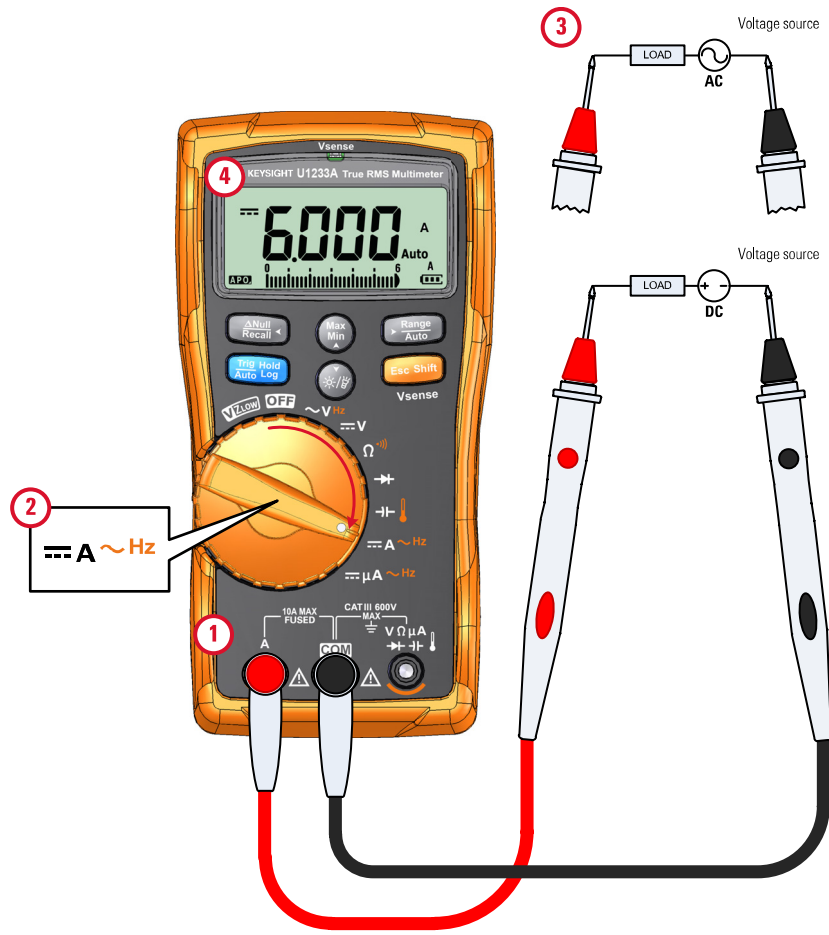
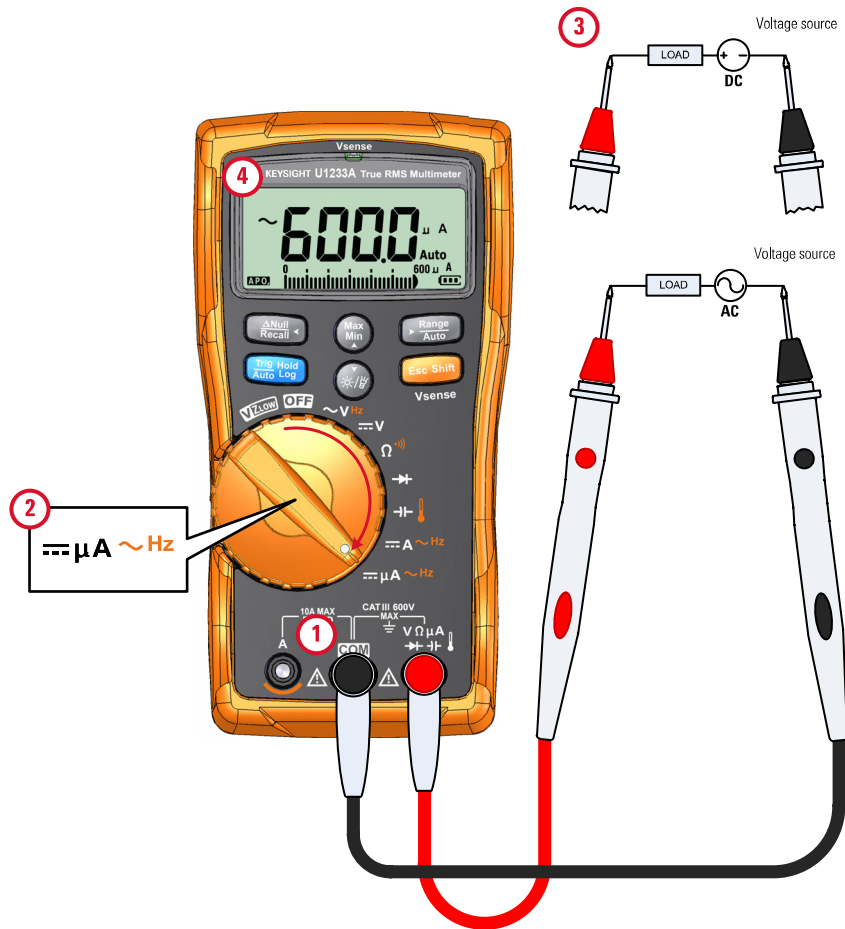

Figure 2-24 Measuring DC/AC current (up to A)
Figure 2-25 Measuring AC/DC current (up to  $\mu\text{A}$ )
Set up your multimeter to measure AC or DC current as shown in Figure 2-24 and Figure 2-25. Probe the test points and read the display.
- 1 Set up your multimeter to measure  $\mu\text{A}$  measurements as shown in Figure 2-25.